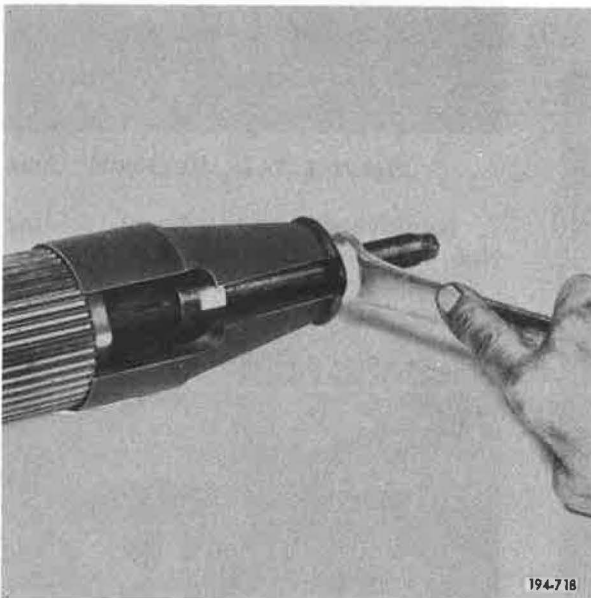

Figure 5-750. Removing Bearing
2. Remove rear mainshaft front bearing, using tool S-501. See Figure 5-750.